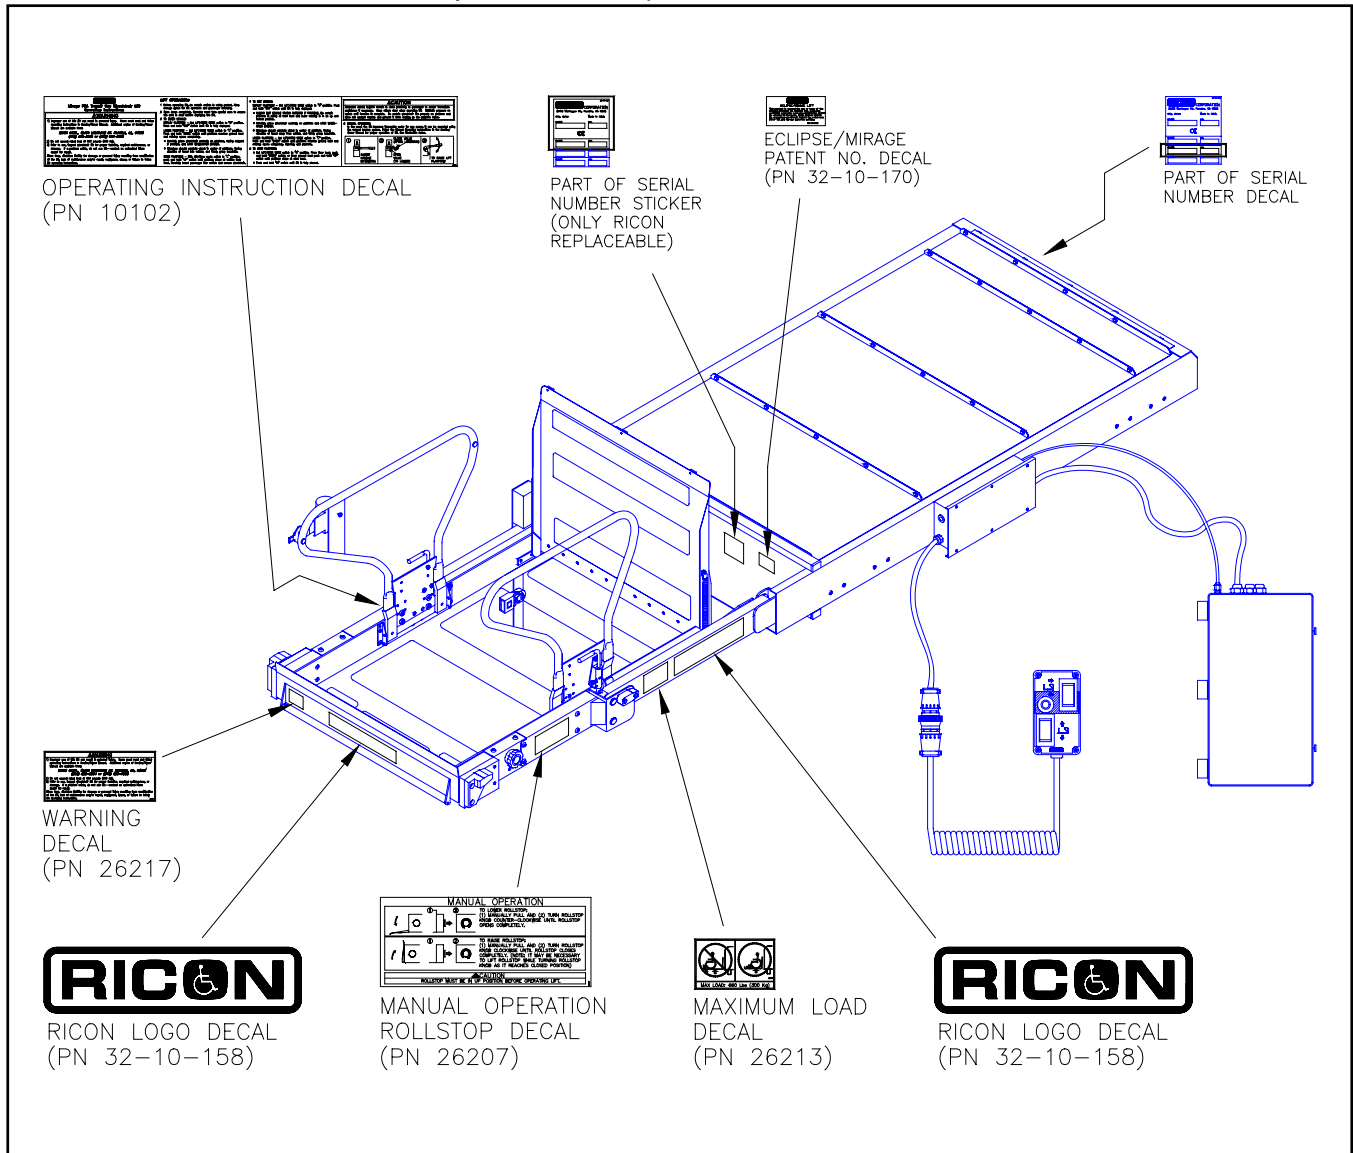

FIGURE 2-7: DECAL LOCATIONS AND PART NUMBERS
- Refer to **Figure 2-7**. Ensure that all decals are properly located and affixed as shown.